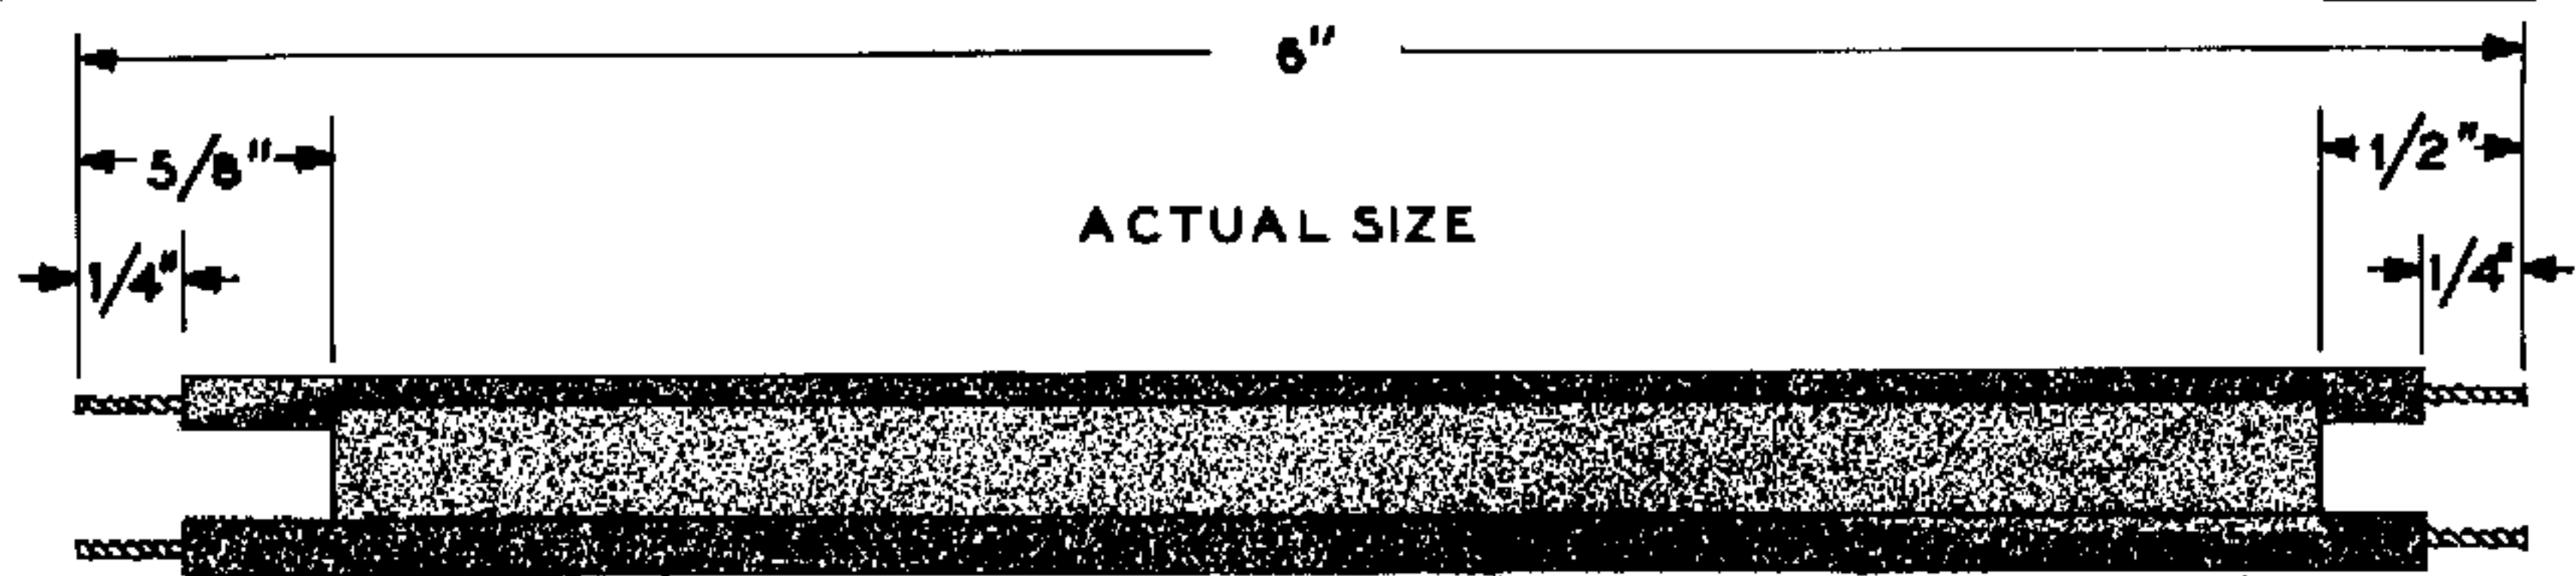

Figure 16
- (✓) Locate the length of 300 Ω twin lead and prepare it as shown in Figure 16.